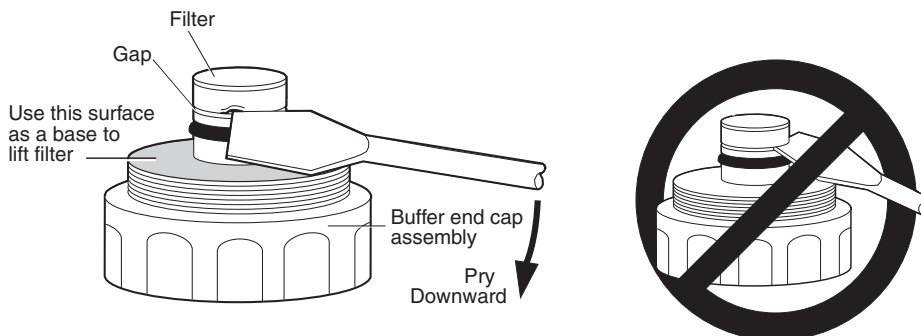

Fig. 10. Removing the filter.
1. Disassemble the unit and remove the old filter. If you cannot pull off the filter with your fingers, use a blade screwdriver. Lay the flat edge of the blade against the black plastic part. Rotate the blade slightly to get the corner of the blade under the white skirt of the filter cap. Pry off the filter by working the screwdriver in the gap between the filter and the plastic lip. Lever the screwdriver against the large white threaded part of the end cap, not the black plastic lip (see Figure 10).